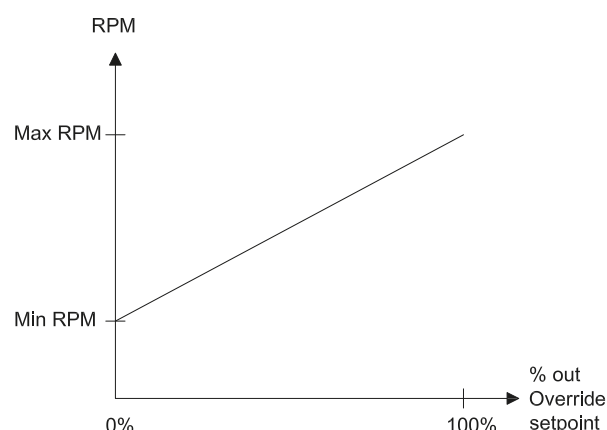
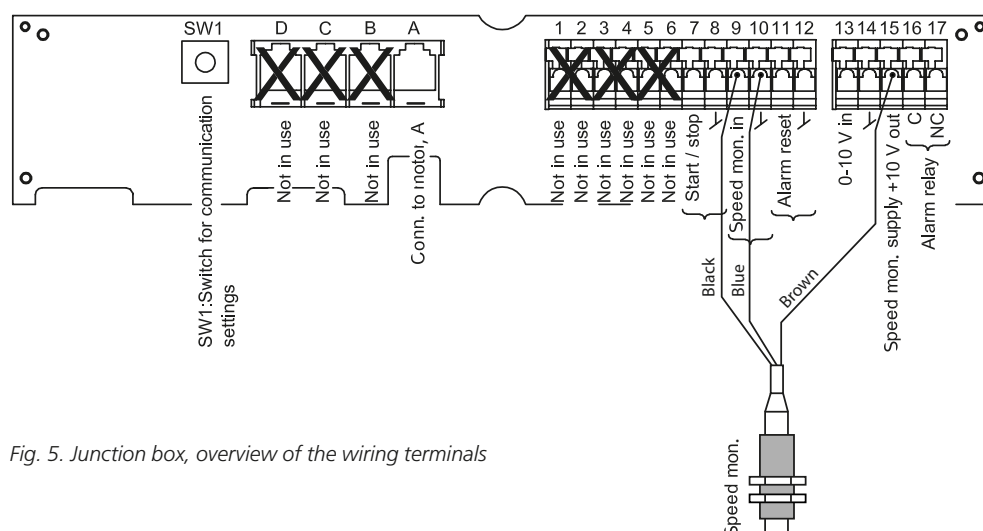

Fig. 3. The ratio between the speed and the min./max. speed setting
Fig. 5. Junction box, overview of the wiring terminals
The heat exchanger control system regulates the speed linearly between 0 % and 100 %, however it is limited to the regulation range between the preset lowest and highest speeds (See Fig. 3) 100 % speed is defined as an input voltage of "0-10 V in" (Terminal 13) at 9.5 V (100 % at 9.5 V, +/- 2 %).
- Connect the 0 – 10 V DC control signal from an external regulator in the junction box to Terminals 13 (0 - 10 V in) and 14 (See Fig. 5). The heat exchanger control system regulates the speed in a capacity linear manner between 0 % and 100 % (100 % at 9.5 V +/- 2 %), however according to the preset times for up ramp and down ramp, and limited to the regulation range between the preset lowest and highest speeds (See Fig. 3 and 4). The "Control with 0-10 V DC" function is described in Section 3. Function.
- Connect the start/stop signal cable leads in the junction box to Terminals 7 (Start/stop) and 8 (See Fig. 5). This should be a potential-free digital contact. The "Start-/stop" function is described in Section 3. Function.
- Connect the Alarm Reset signal cable leads to the heat exchanger control system's junction box to Terminals 11 (Alarm reset) and 12 (See Fig. 5). This should be a potential-free digital contact. The "Alarm Reset" function is described in Section 3. Function.
- The heat exchanger control system is equipped with an alarm relay output with normally-open contact function in the event of a malfunction or alarm. The alarm signal cable is marked "Alarm relay", and should be connected in the junction box to Terminals 16 (C) and 17 (See Fig. 5). This should be a potential-free digital contact. The "Alarm Relay" function is described in Section 3. Function.
- Connect the sensor cable of the rotation monitor to Terminals 9 (digital in), 10 (See Fig. 5) and 15 (+10 V out, power supply to sensor).
There is no in-operation signal	Short-circuit Terminals 7 and 8 in the heat exchanger control system junction box marked  (GND) and "Start/Stop" (Fig. 5).
There is no 0 – 10 V DC control signal	Check that the 0 - 10 V DC control signal is correctly connected to Terminals 13 and 14 in the heat exchanger control system junction box marked  (GND) and "0-10 V in" (Fig. 5).
The motor has been stopped by the internal protective motor switch 3 times due to overloading or some other alarm.	Reset the alarm by short-circuiting Terminals 11 and 12 in the heat exchanger control system junction box marked  (GND) and "Alarm reset" (Fig. 5).  You can also reset the alarm by switching off the supply voltage to the heat exchanger control system and switching it back on after 60 seconds.